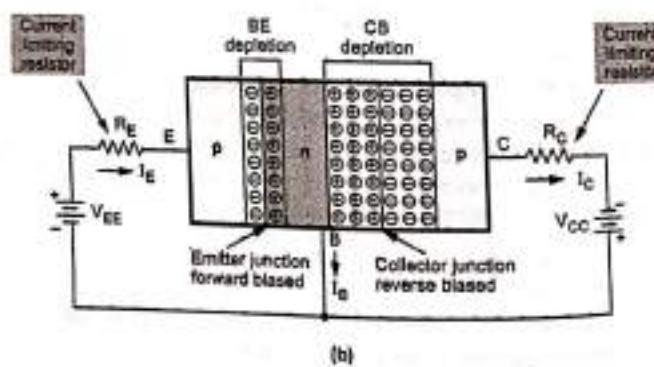

Fig. Q.3.1
**Ans. :** Fig. Q.3.1 (a) shows the biasing arrangement for operating pnp transistor in the active region.
- The pnp transistor has its bias voltages  $V_{EE}$  and  $V_{CC}$  reversed from those in the npn transistor, shown in Fig. Q.3.1 (b). (Fig. Q.3.1 (b) shows conventional currents). This is necessary to forward-bias the emitter-base junction and reverse-bias the collector base junction in pnp transistor.